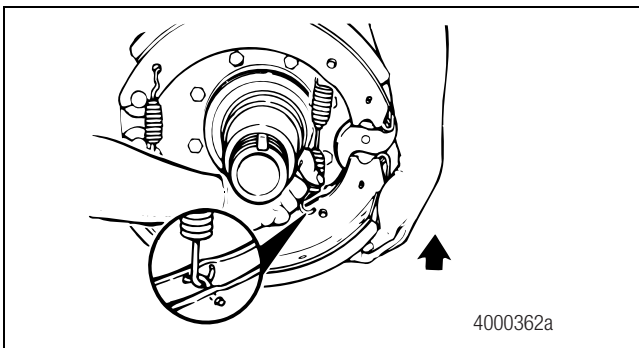

Figure 3.20
4. Rotate the lower brake shoe forward. Install a new brake shoe return spring with the open end of the spring hooks toward the camshaft. Figure 3.20.